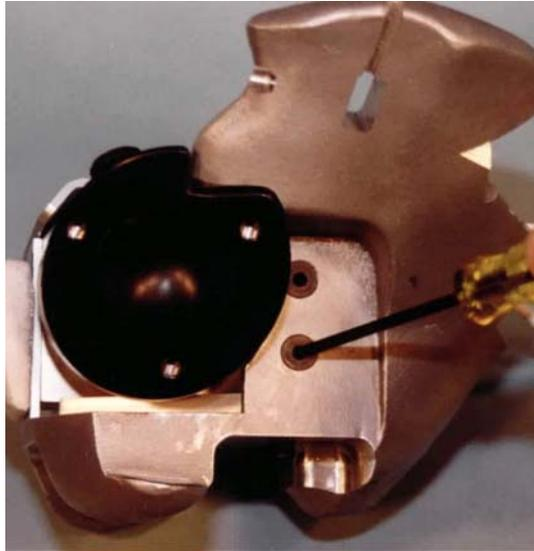

Figure 11.13- Pelvic Box side mounting bolt locations
11. Place the Pelvic Box Assembly (T1PLM200) into the Machined Pelvic Casting (T1PLM010). Insert and begin tightening two 1/4"-28 x 3/4" FHSCS {5/32} on each side of the machined pelvic casting into the pelvic box assembly, as shown in **Figure 11.13**, leaving the bolts loose.